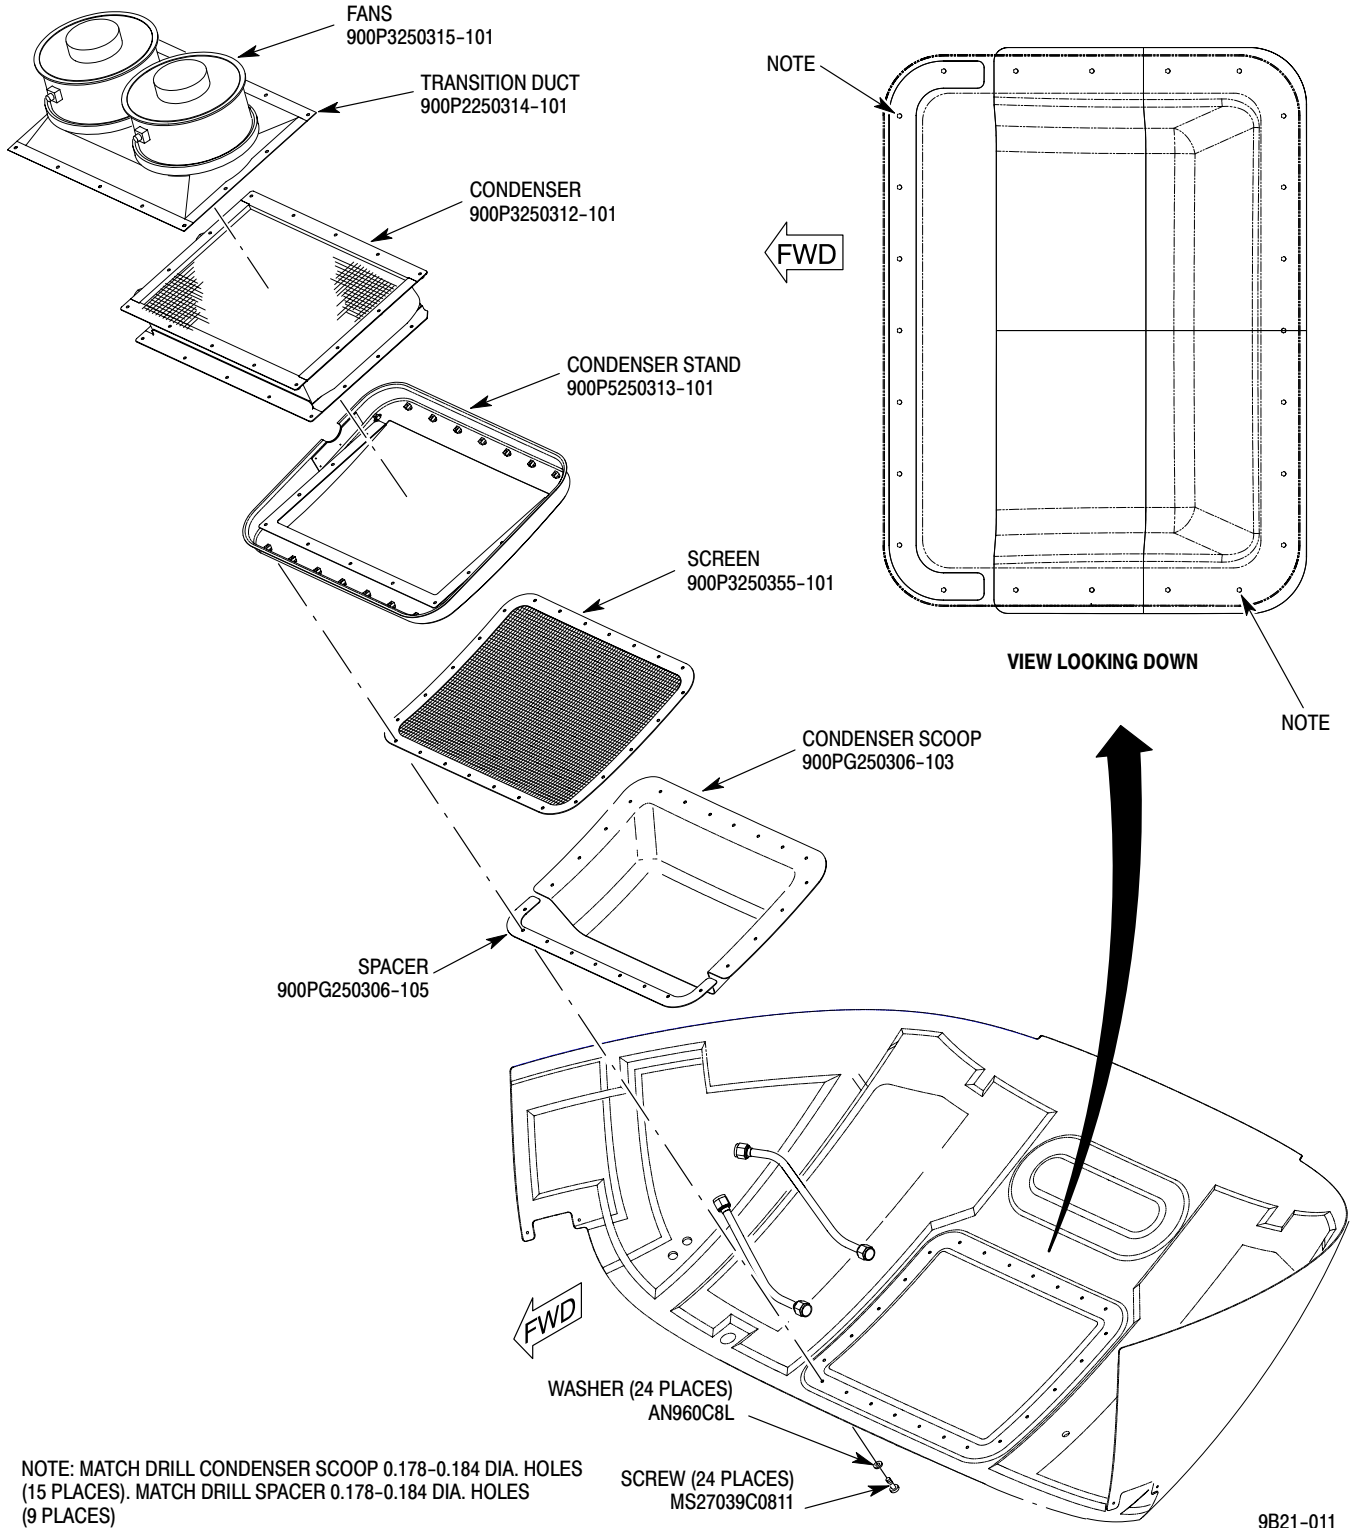

Figure 1. Condenser Scoop Installation
- (1). Remove baggage floor panel A235 (Ref. Section 53-20-00).
- (2). Remove screws (MS27039C0810) and washers (AN960C8L) from condenser stand and screen (24 places, Ref. Figure 1).
- (3). Install condenser scoop and spacer through the bottom opening and rotate into position while condenser stand is raised.
- (4). Locate condenser scoop and spacer as shown in figure 1. Match drill **0.178-0.184 inch dia. (4.5-4.7 mm)** holes, #15 drill size (24 places).
- (5). Deburr holes in condenser scoop and spacer.
- (6). Install condenser scoop, spacer, air screen, and condenser stand in sequence as shown in Figure 1.